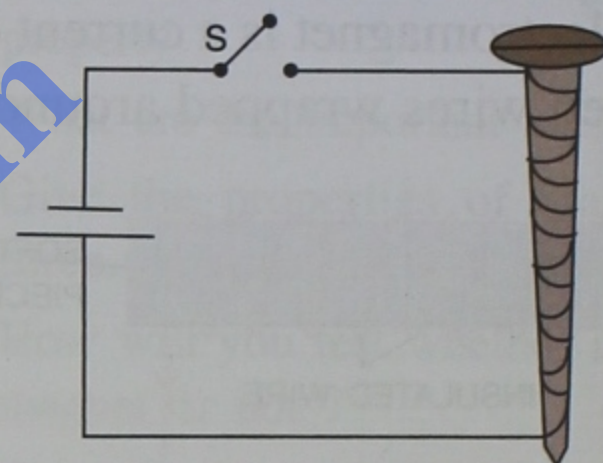

Fig. 13.4 Making an electromagnet
- Take an iron nail of about 6-10 cm in length and wind an insulated copper wire on it as shown in Fig 13.4.